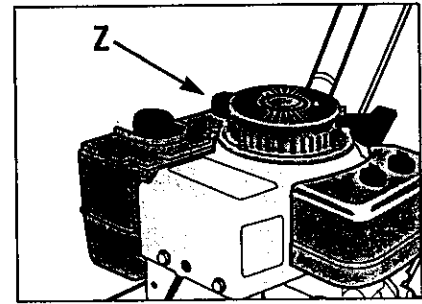

Figure 5-1
3. Clean area around dipstick (Z, Figure 5-1) to prevent dirt from entering oil fill hole.
2. Remove dipstick (Z, Figure 5-1).